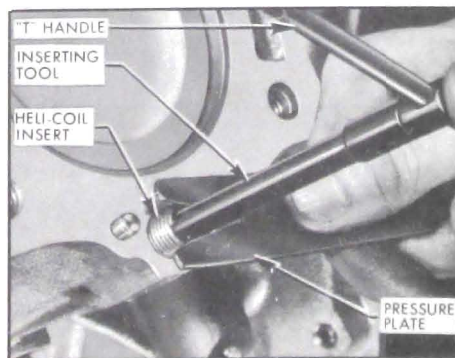

Figure 2-78—Installing Insert
3. Install the insert. See Figure 2-78.
mouth of the hole as illustrated in Figure 2-78. Do not apply downward pressure on the inserting tool.